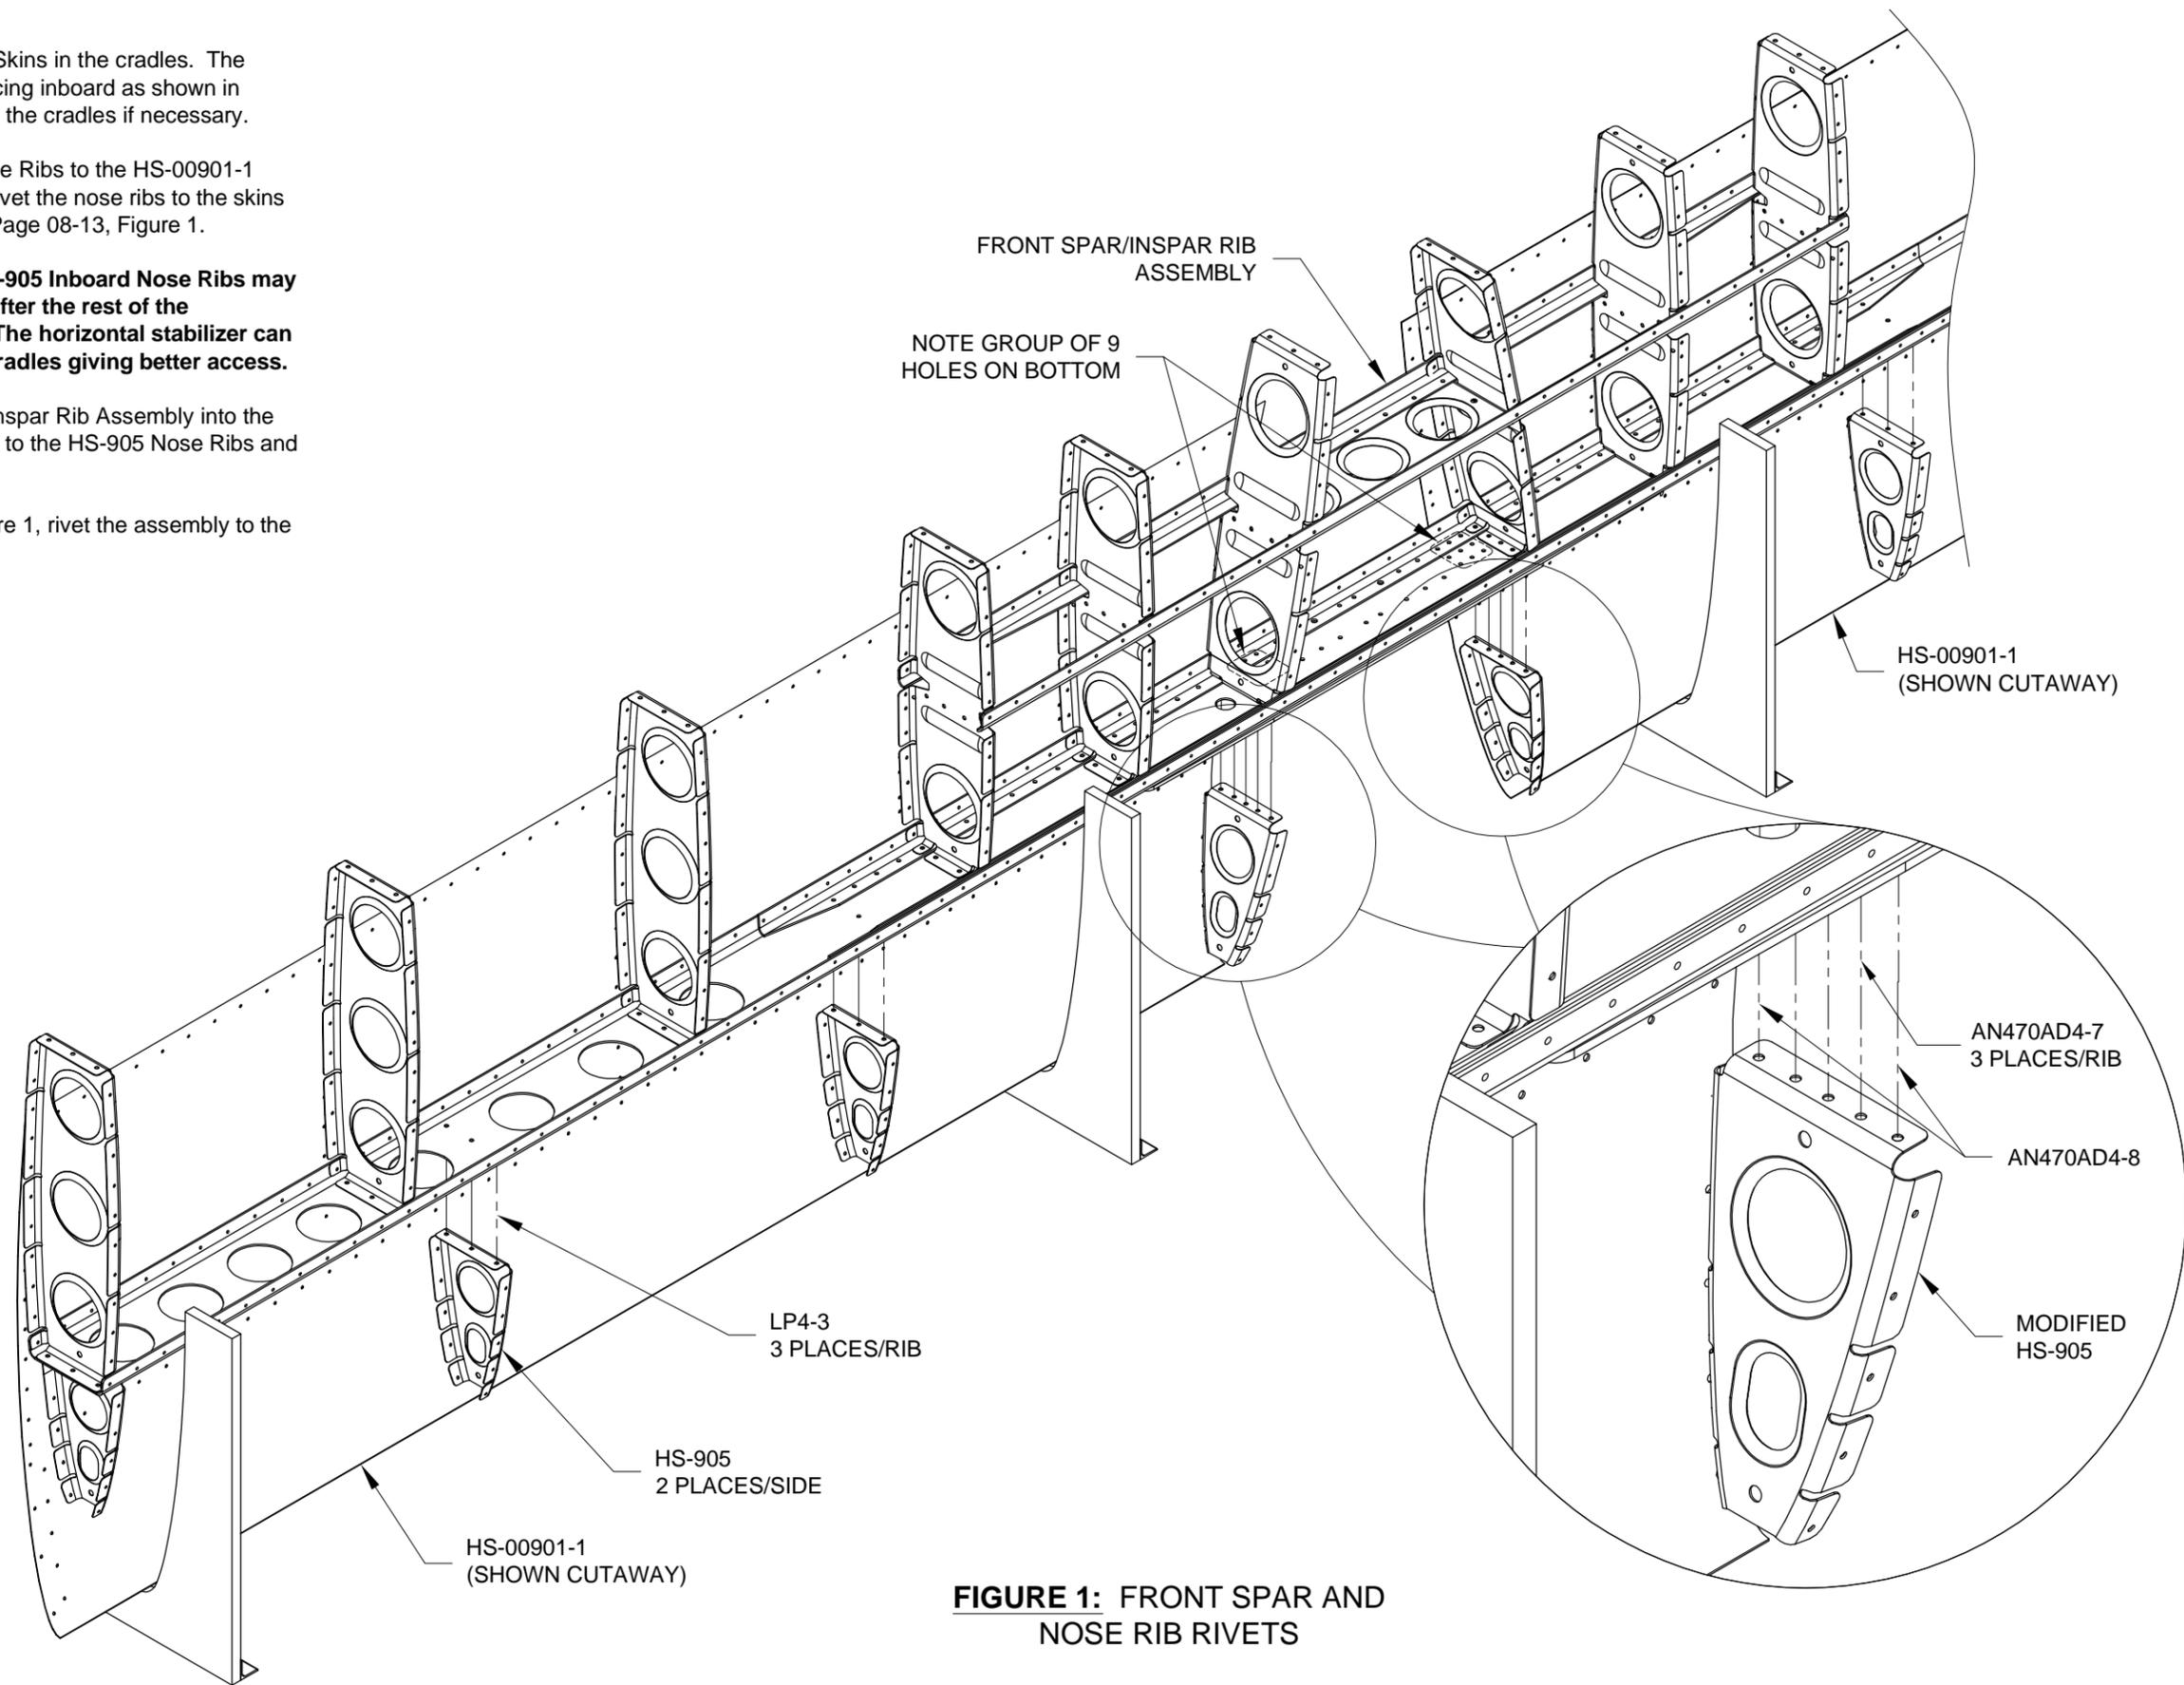

FIGURE 1: FRONT SPAR AND NOSE RIB RIVETS
Using the rivets shown in Figure 1, rivet the assembly to the nose ribs.
Step 1: Rivet the HS-00901-1 Skins to the flanges of the Front Spar Assembly using the rivets called out on Page 08-13 Figure 1. Make sure to capture the flanges of the HS-904 and HS-1004 Inspar Ribs where they joggle under the flanges of the Front Spar Assembly.